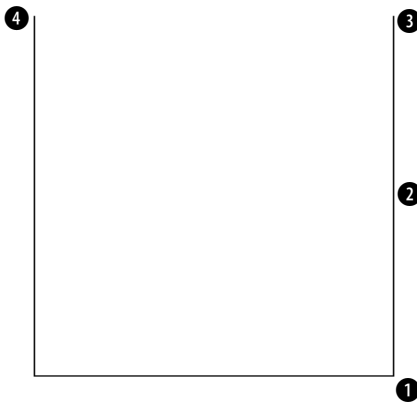

Figure 4-23: These three lines are the start of a mounting bracket.
Your drawing should look like Figure 4-23. The circled numbers are reference points for this exercise.
_endp of Move the cursor to ① in Figure 4-23. When you see the endpoint marker and AutoSnap tooltip, click.